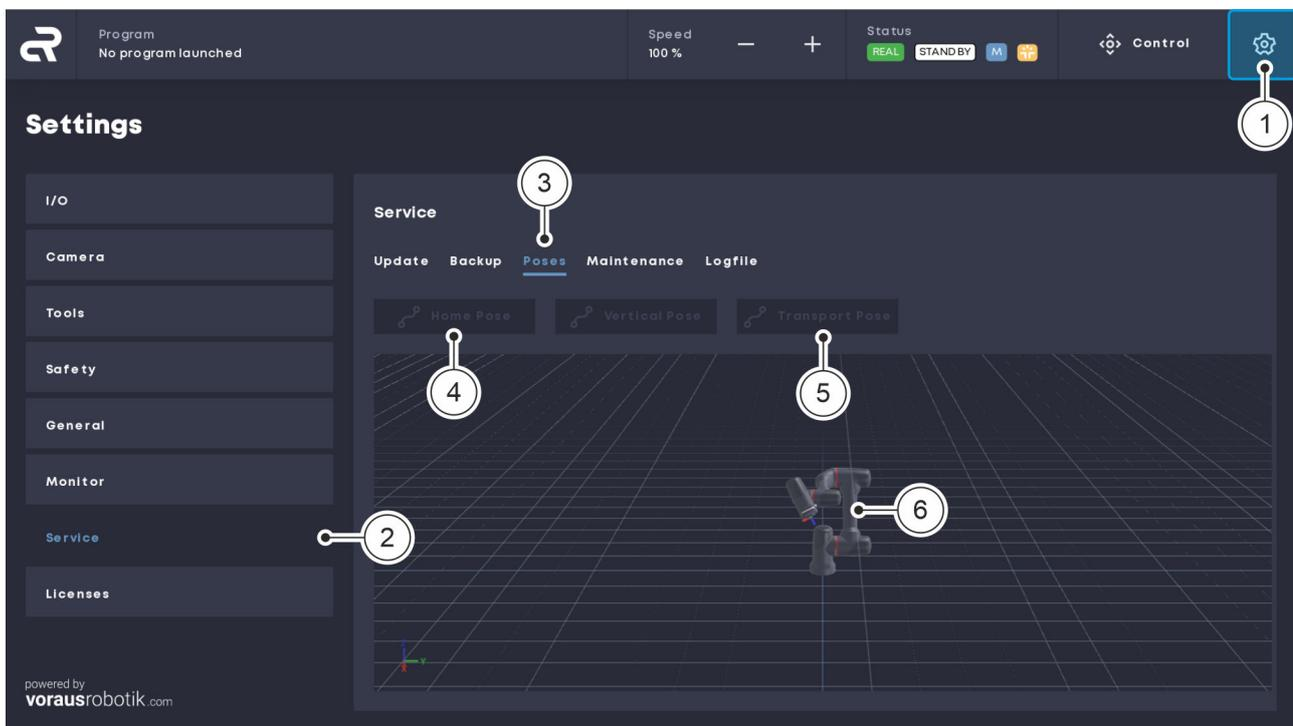

Fig. 43 Moving to the transport position
01. In the navigation bar, click on the gear icon Fig. 43 /① to open the 'Settings' menu.
02. In the 'Settings' menu, click the 'Service' button on the left-hand tab to open the service settings window Fig. 43 /②.
03. In the 'Service' menu, select the 'Poses' tab Fig. 43 /③.
04. Click and hold the 'Home Pose' button until the home position is reached Fig. 43 /④.
05. Click and hold the 'Transport Pose' button until the transport position is reached Fig. 43 /⑤.
- ▶ The robot is in the transport position Fig. 43 /⑥.